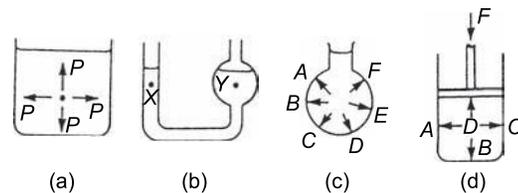

Figure 22.1
- (a) The pressure at a given depth in a fluid is equal in all directions; see Figure 22.1(a).
- (b) The pressure at a given depth in a fluid is independent of the shape of the container in which the fluid is held. In Figure 22.1(b), the pressure at X is the same as the pressure at Y .
- (c) Pressure acts at right angles to the surface containing the fluid. In Figure 22.1(c), the pressures
- (d) When a pressure is applied to a fluid, this pressure is transmitted equally in all directions. In Figure 22.1(d), if the mass of the fluid is neglected, the pressures at points A to D are all the same.